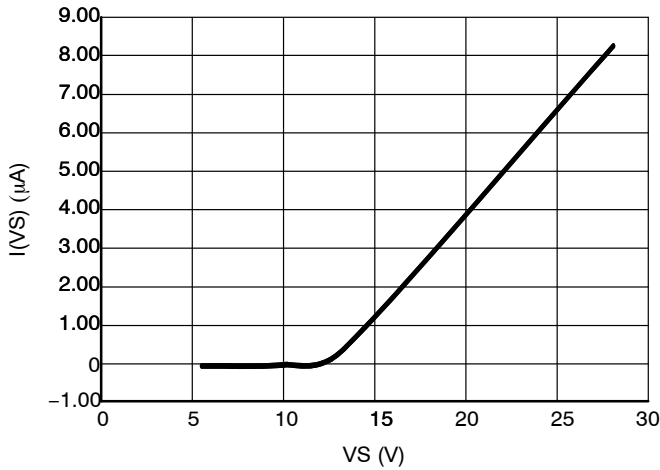

Figure 12. I(VS) Standby Current vs. VS at 25°C
- Refer to Figures 12 and 17 for the VS standby current behavior.